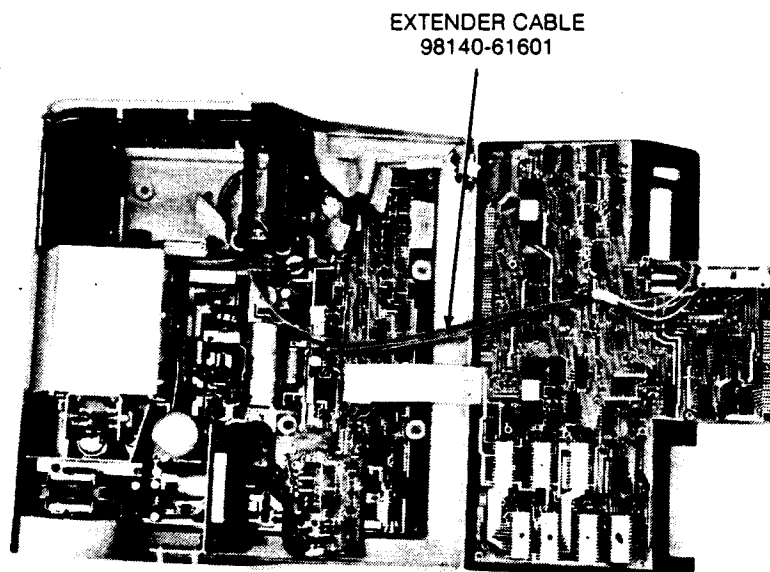

Figure 2-9. Calculator Test Setup
- Connect the keyboard assembly to the power supply assembly (see Figure 2-9).
- Install an extender cable (HP Part No. 98140-61601) to extend the 4-wire cable from the keyboard assembly to the power supply assembly (see Figure 2-9).